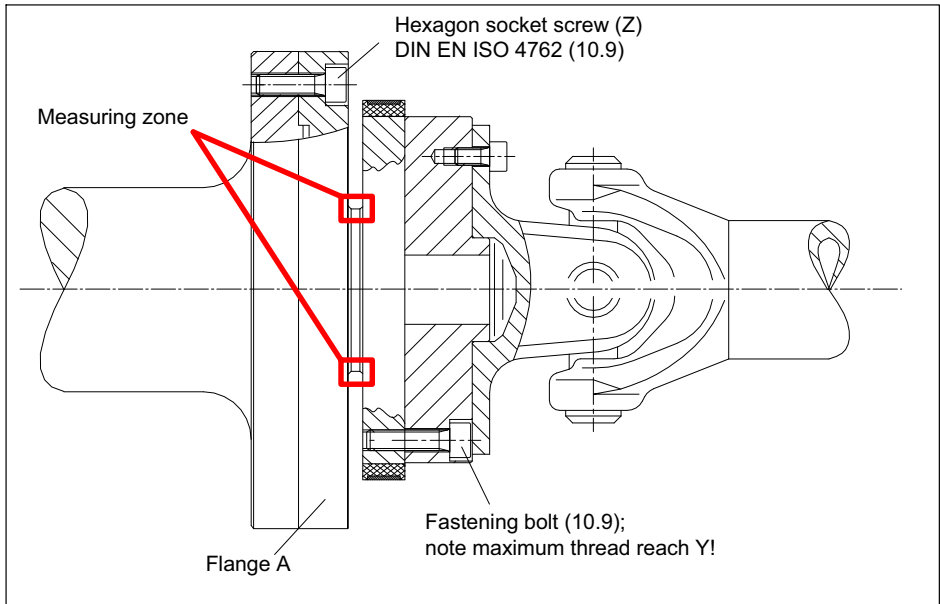

Fig. 5.4 Bolted rotor connection
Make sure during installation that you do not damage the measuring zone marked in Fig. 5.4 by using it to support tools or knocking tools against it when tightening screws, for example. This can damage the transducer and produce measurement errors, or even destroy the transducer.
2. For the connection of flange A (see Fig. 5.4), use *DIN EN ISO 4762 property class 10.9* hexagon socket screws of a suitable length (dependent on the connection geometry, see *Tab. 5.1 on Page 30*).